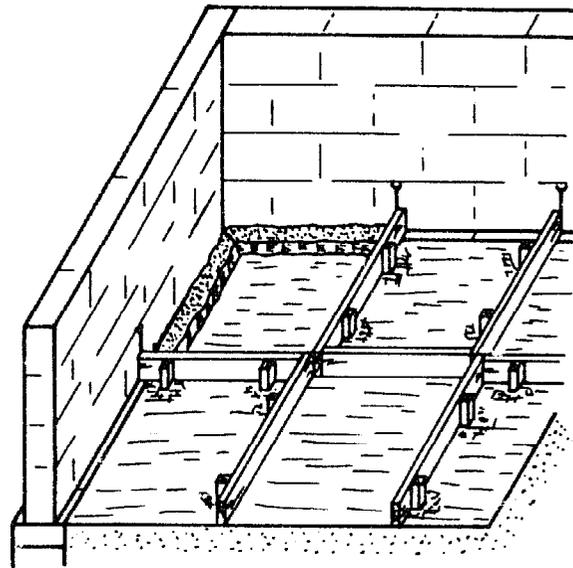

Fig. 5
- h. Pour the guide strips to the height of the base layer (approximately 8 cm) (Fig. 5). Level the tops of the guide strips (Fig. 7).